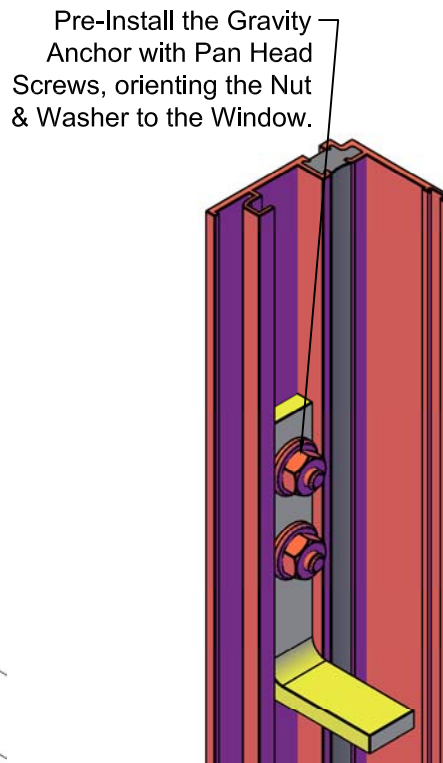

Fig. 7
6) A pan head screw w/ nut & bolt (X-307 w/ nut washer) can be used to secure the gravity anchor to the receptor jamb prior to installing the trim into the rough opening. Install the jamb receptor per the receptor installation instructions. See Fig. 7